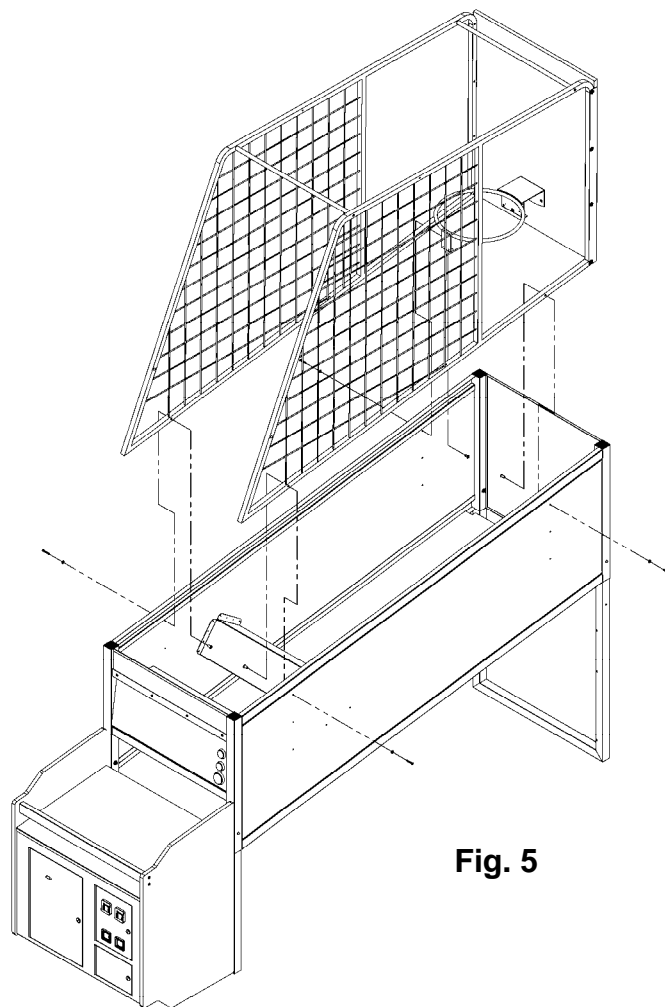

Fig. 5
9. Install the Frame assembly to the game. It can be adjusted to three heights: 9ft., 8 1/2 ft. and 8 ft. Please install to the highest possible height. Install by lifting the frame inside the game to one of the 3 sets of mounting holes, and secure with (4) 1/4-20 X 1 1/2" Allen head bolts, inserts and (4) flat black washers. (See Fig. 5)